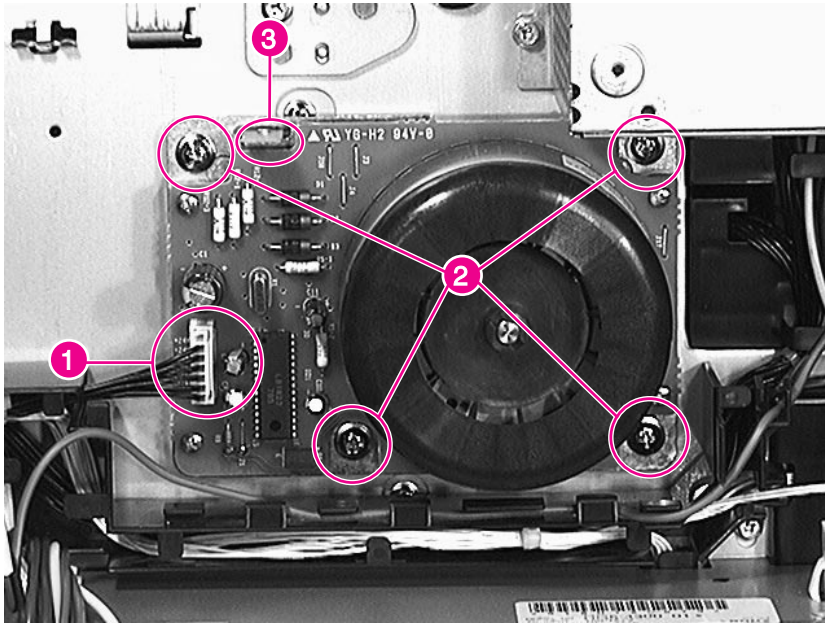

Figure 6-41 Main Motor
- Main Motor (see figure 6-41 on page 209)
- 3 Unplug the connector (figure 6-41, callout 1).
- 4 Remove 4 screws (figure 6-41, callout 2).
Align the Main Motor to the chassis with the locator tab (figure 6-41, callout 3) and the machined ring around the output shaft.